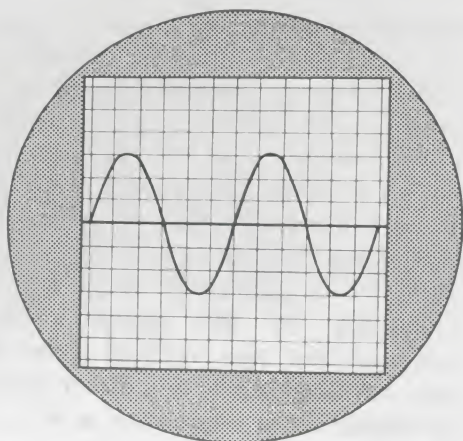
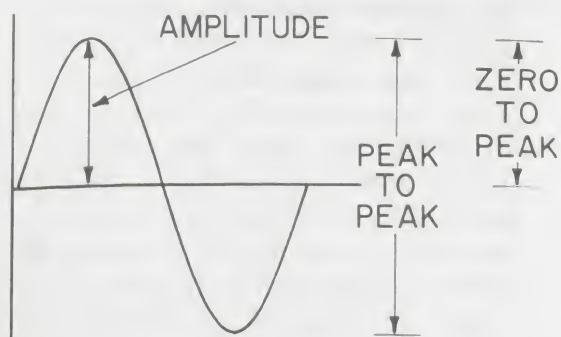

Figure 11.
Figure 12.
3. Turn the voltage on the variable transformer to 10 V. You should see a sine wave signal (Figure 11) on the scope face. Focus and center this trace and set its *amplitude* (Figure 12) so that it fills the scope face in the vertical direction. (If you need help, ask your instructor which knobs to turn.) Record, in scale divisions, the *peak-to-peak* distance this voltage covers on the scope. To calculate this voltage, multiply the number of scale divisions by the number of V/cm.